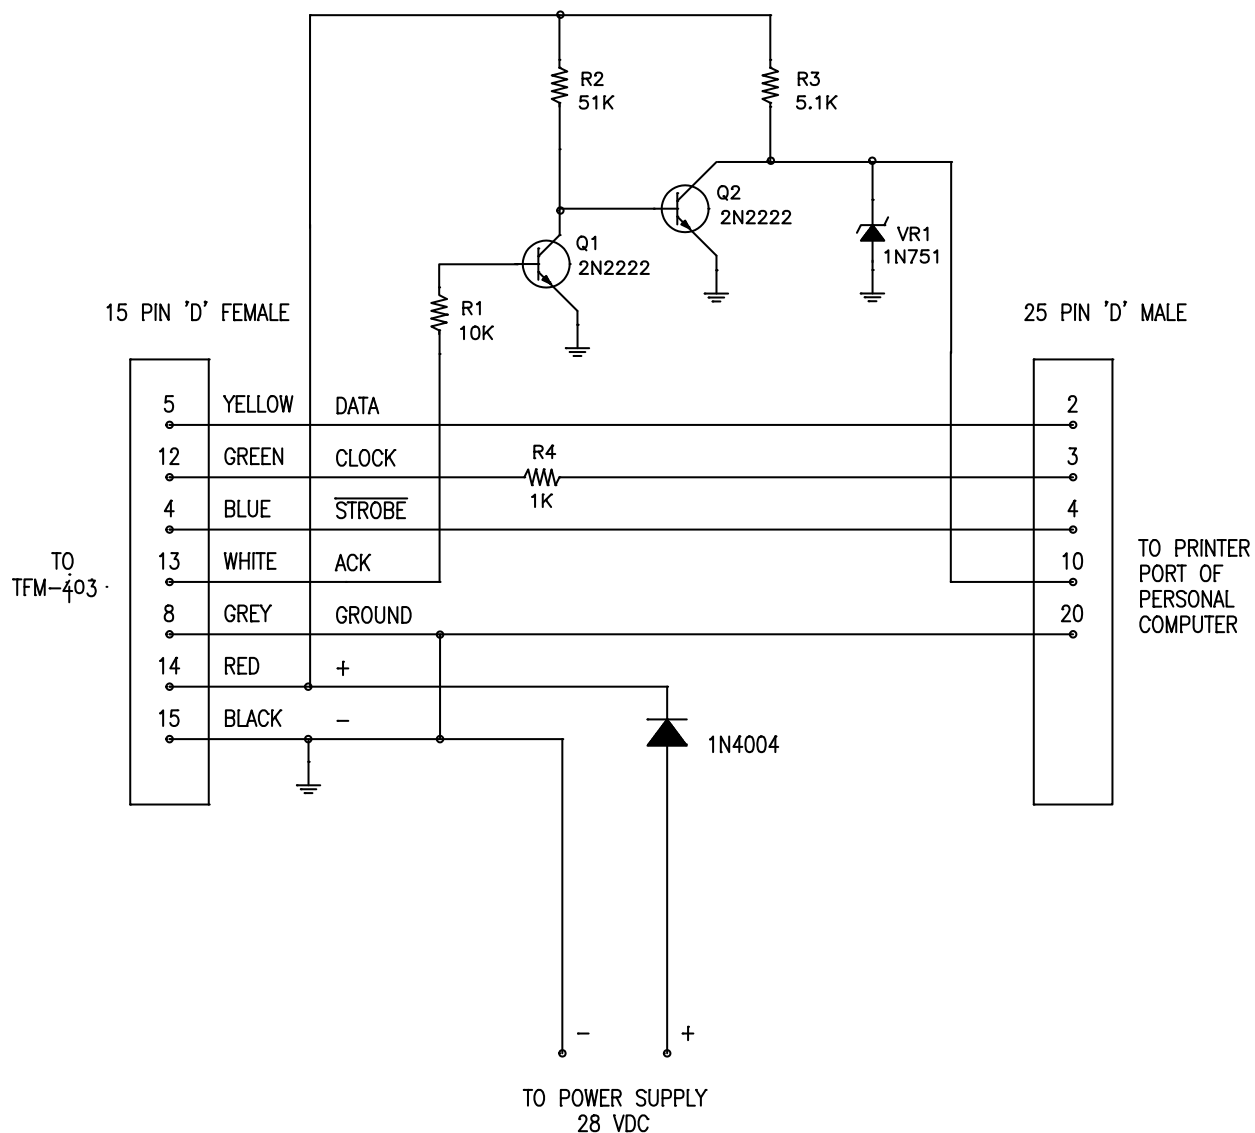

FIGURE 2.2 TFM-403 Transceiver PC Up/Download Cable - wiring diagram
Do not use cable P/N 943165-4 which is shown in FIGURE 2-2. It is for use with the DOS-program only.
3. PC Download cable (P/N 943165-4) see FIGURE 2-2.